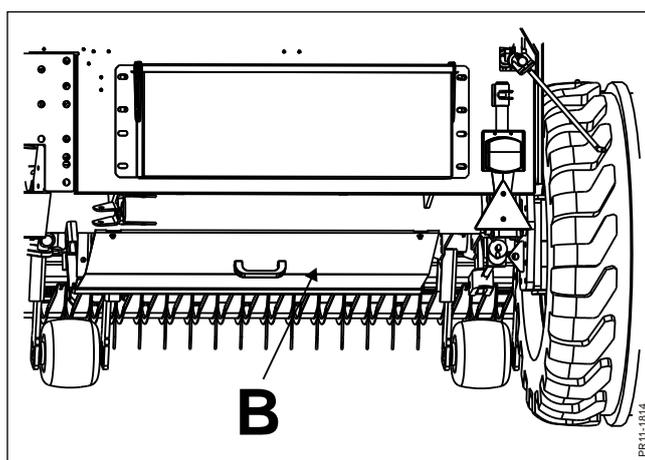

Fig. 4-19
**Fig. 4-19** Under the roller section a bottom plate **B** can be mounted as option. This plate can be mounted when working in very dry and/or short crops to avoid waste under the rollers.